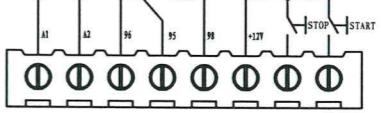

Figure 3 Connecting terminals
5.1 Connecting terminals see Figure 3.